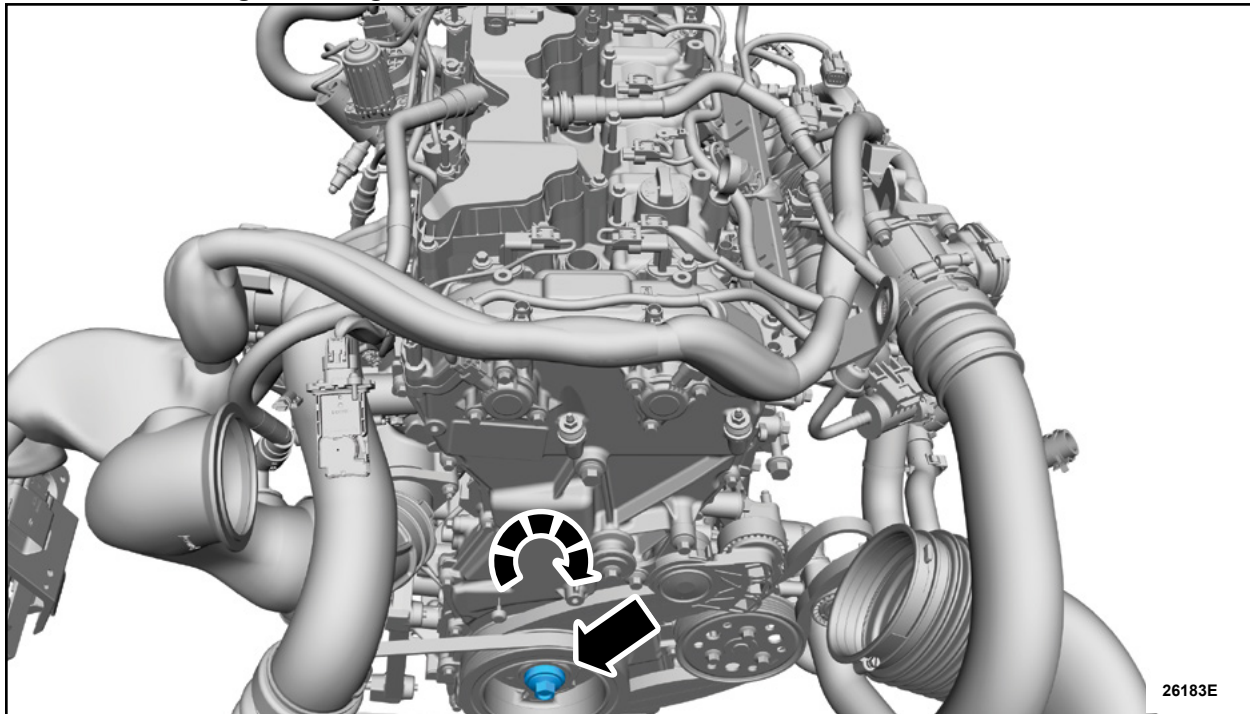

FIGURE 7
7. Using large breaker bar or a long-handle ratchet attached to the crankshaft pulley bolt, position the piston to **Bottom Dead Center** inside the cylinder for Inspection. See Figure 7.